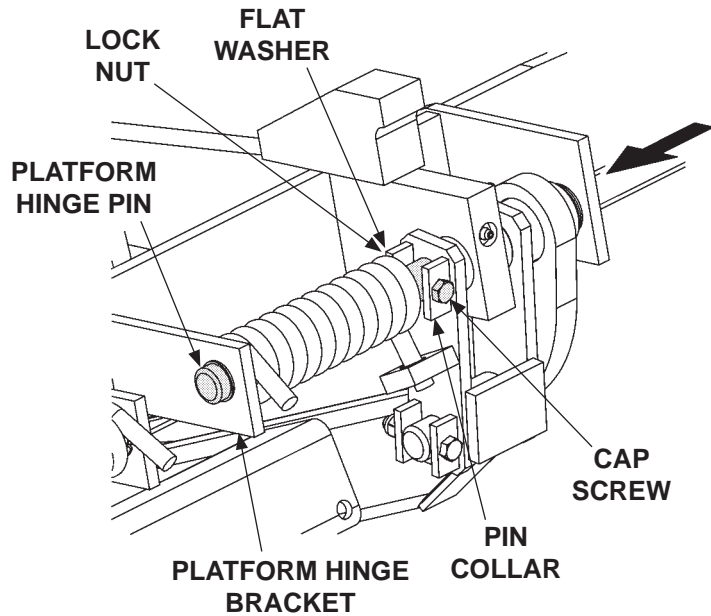

FIG. 22-1
6. Drive platform hinge pin inboard to correct position through the platform hinge bracket (**FIG. 22-1**). Line up the hole in the platform hinge pin with the hole in the pin collar. Reinstall cap screw through the pin collar and secure with flat washer and locknut (**FIG. 22-1**).